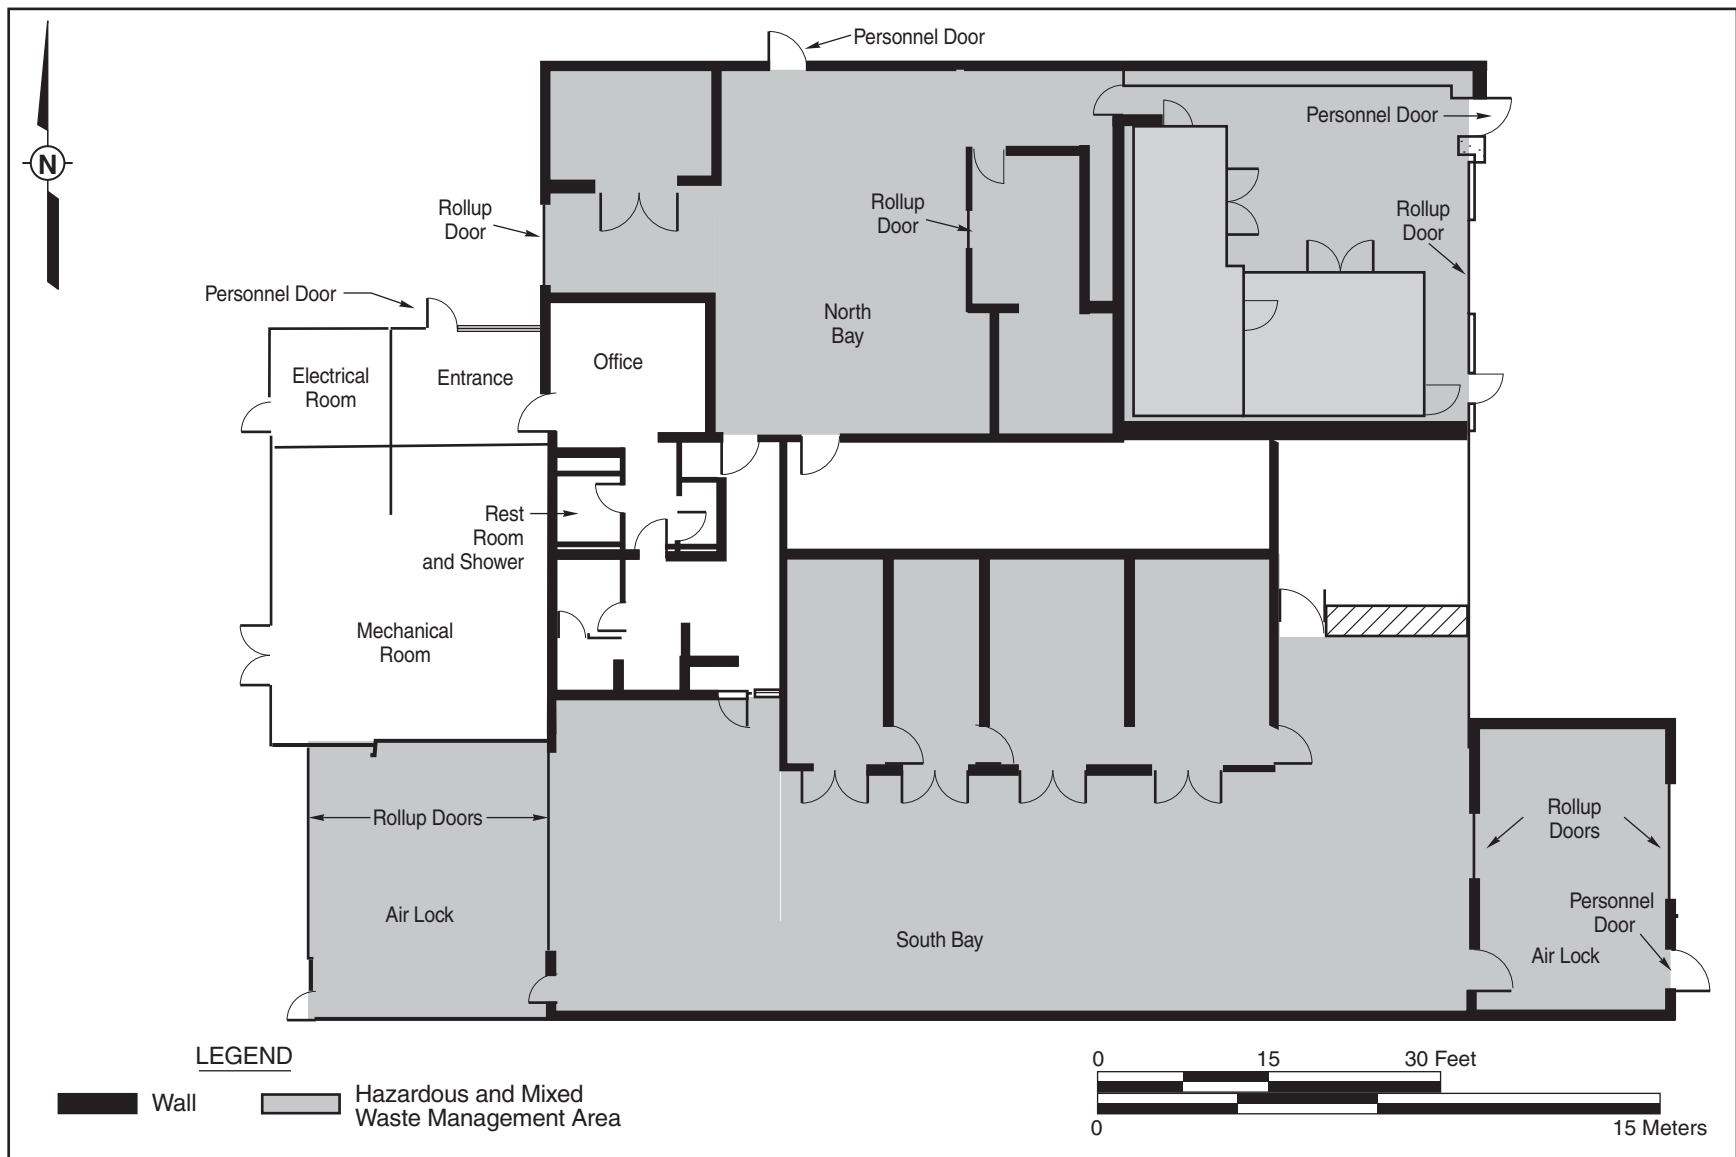

Figure 17
- Figure 17: Radioactive and Mixed Waste Management Unit Building 6920 Hazardous and Mixed Waste Management Areas